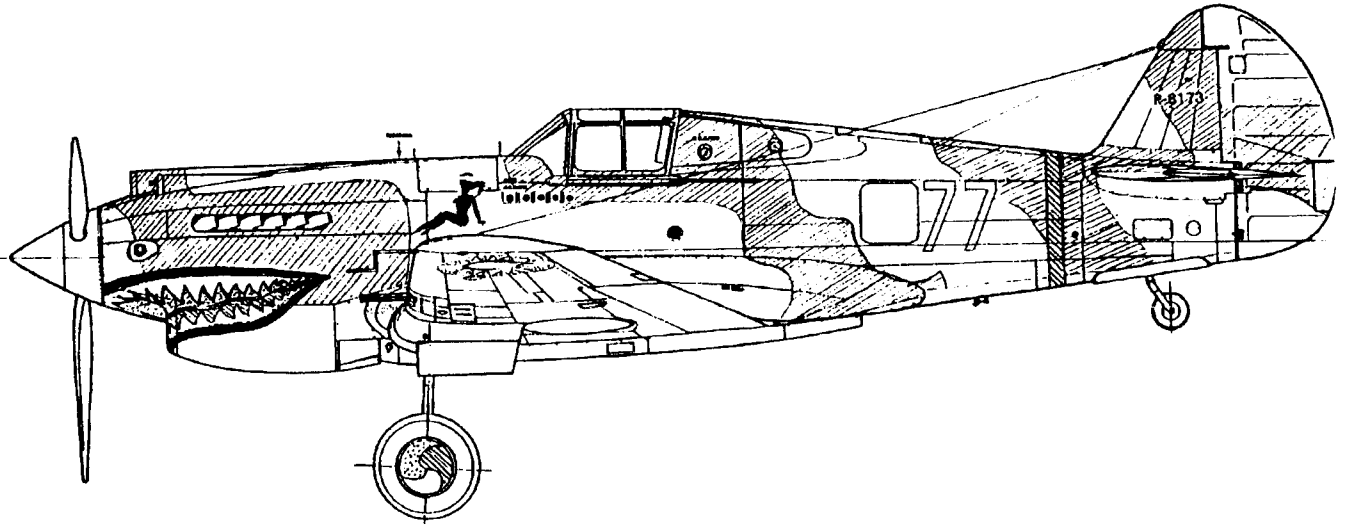

Figure 5
**Figure 5. Hawk 81-A2 number 77 (serial P-8173), January, 1942:** This aircraft was the first aircraft flown by Robert T. Smith, flight leader in the Third Squadron. White numbers and letters, including a pilot inscription in front of the cockpit. Red fuselage band. Five white "meatballs" were carried at this time. Angel insignia in red and white, that on the starboard side was in a standing pose, facing the front of the aircraft. Shark mouth had black lips, white teeth and red tongue. Area inside the mouth was painted light gray similar to the undersurface camouflage color. The upper row of teeth were thinly outlined in black, and a thin black stripe was located just inside the top edge of the tongue. The inside edge of both top and bottom lips was lined in red. White eye with red pupil and probable light gray center spot. Red/blue/white pinwheels on wheel covers.
**Figure 5. P-40 E number 106 (serial unknown), May, 1042:** This Kittyhawk is typical of the replacement aircraft received by the AVG beginning in late March, 1942. These ex-USAAF planes were finished in standard Dark Olive Drab 41 and Neutral Gray 43 camouflage. Wheel covers were Neutral Gray also. Note the slight overspray of Neutral Gray on the fuselage under the leading edge of the horizontal stabilizer, and the typical low fuselage color demarcation. The regulation yellow serial numbers were overpainted with Olive Drab by Army personnel prior to ferrying, with no traces remaining visible in photos. The other U.S. markings remained during ferrying operations. Upon receipt by the AVG, the fuselage star insignia were painted out with dark green paint while Chinese insignia were placed in the usual four positions on the wings, covering the U.S. wing insignia in the process. These Chinese insignia